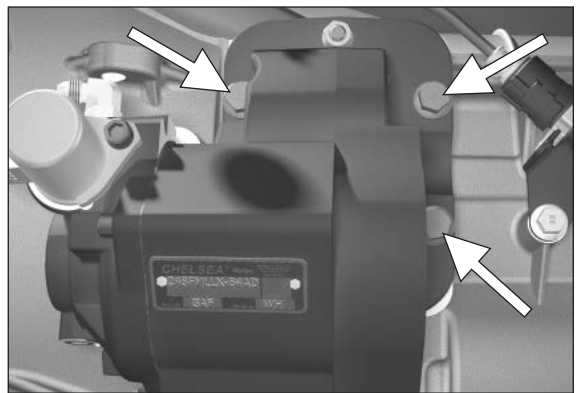

Figure 34
13. **249** - Next, install the three remaining hex cap screws in the remaining holes (**Fig. 34**).
**249V** - Next, install the two remaining locking nuts on the top and middle right side studs (**Fig. 34**).